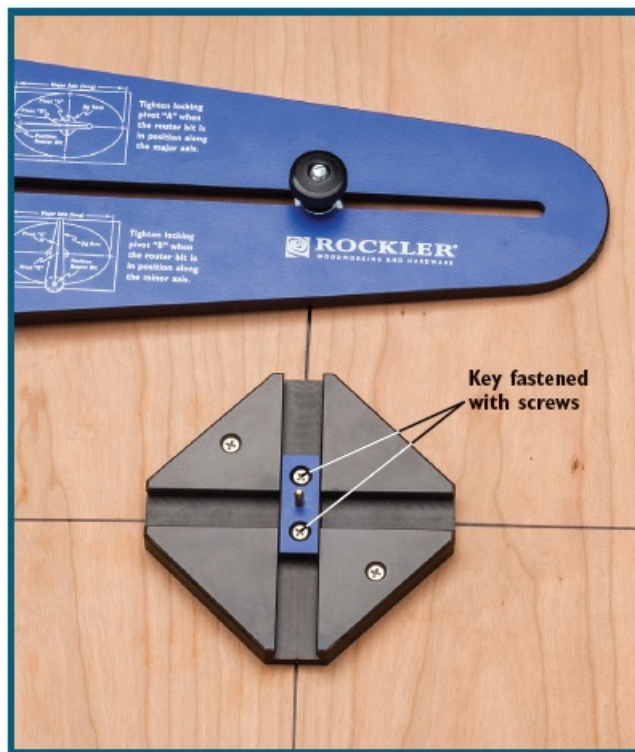

Fig. 6
2. Use the scribe lines machined into the Jig Base (2) to center it on the intersection of the axes. Secure the Jig Base (2) to the workpiece with the included #6 Wood Screws (7).
3. Remove one of the Locking Pivots from the Jig Arm (1) and one of the Dovetail Keys (3) from the Jig Base (2).
4. Make sure the remaining Dovetail Key (3) is in the channel that has the two holes near the center. Align the holes in the Dovetail Key (3) with the holes in the Jig Base (2) and secure with two of the included #6 Wood Screws (7). Fig. 6.